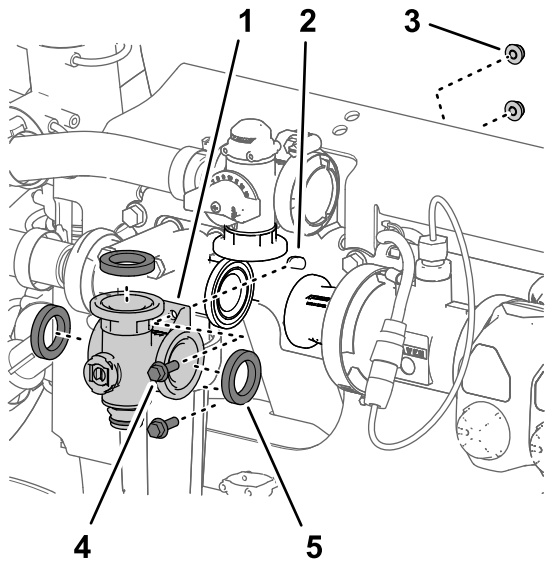

Figure 114
3. Remove the 2 flange-head bolts (1/4 x 3/4 inch) and 2 flange locknuts (1/4 inch) that secure the agitation-valve manifold to the valve support (Figure 114).
4. Remove the agitation-valve manifold and gaskets from the machine (Figure 114).